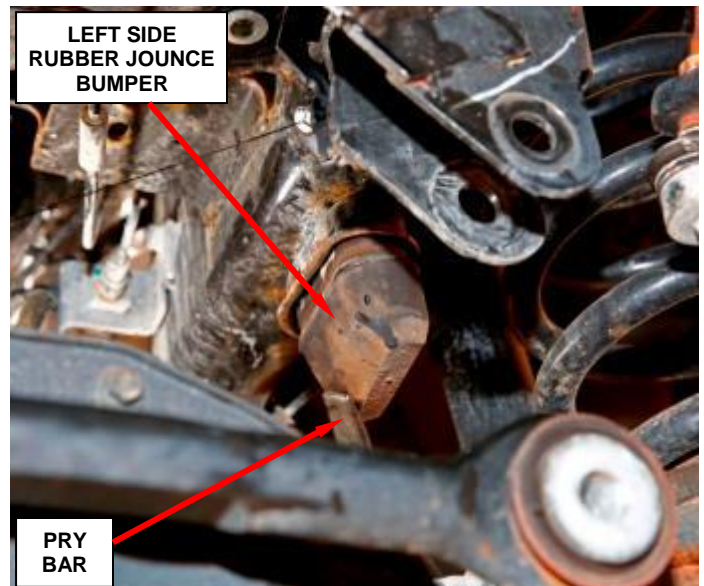

Figure 25 – Remove Left Rubber Jounce Bumper
46. Remove and save the left side rubber jounce bumper (Figure 25).